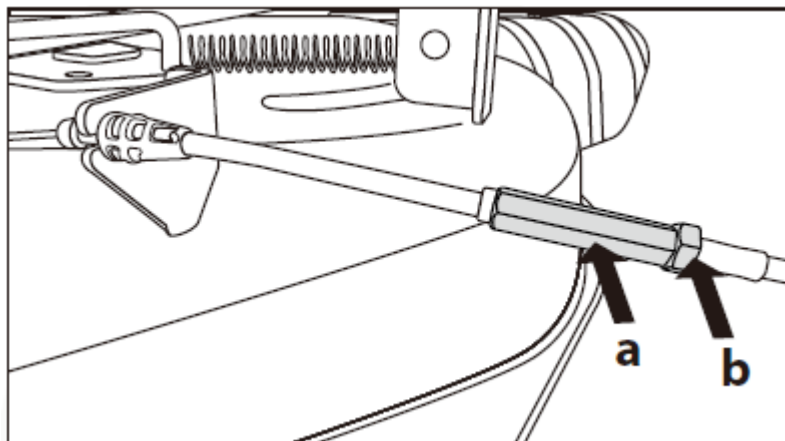

Fig.26
1. The deck cable is set at the factory with no exposed threads showing behind the lock nut (b).(Fig.26)